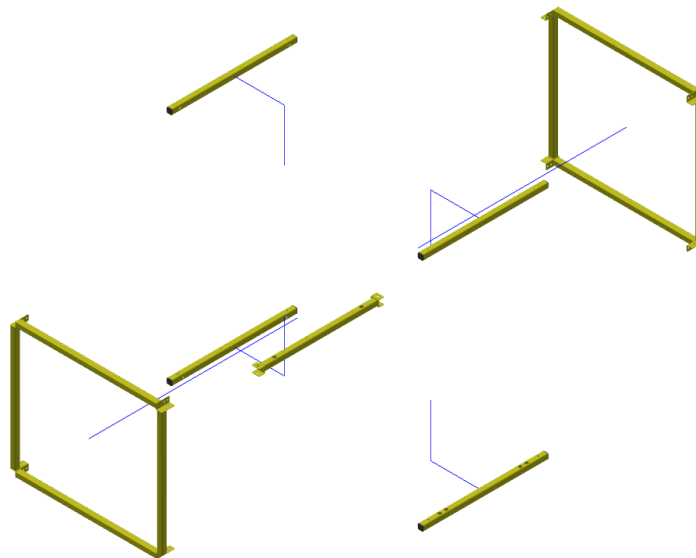

Figure 11: Machine Guard Frame Exploded View
- Assemble Machine Guard Corner Tube Assemblies (p/n \_ \_-223) and secure with provided 1/4-20 hardware similar to the previous step. An exploded view of the Overhead Traction Machine Guard is shown below for reference (Figure 11).